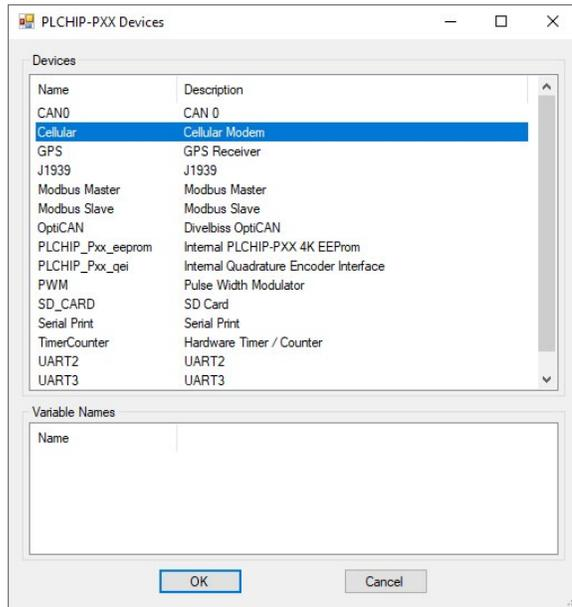

Figure 2-49 - PLCHIP-PXX Devices - Cellular
4. Click / select **Cellular** (highlight). Refer to Figure 2-49. Click **OK**. The *Cellular Properties* window will open identifying UART1 as the interface for the Cellular Modem. Click **OK**.